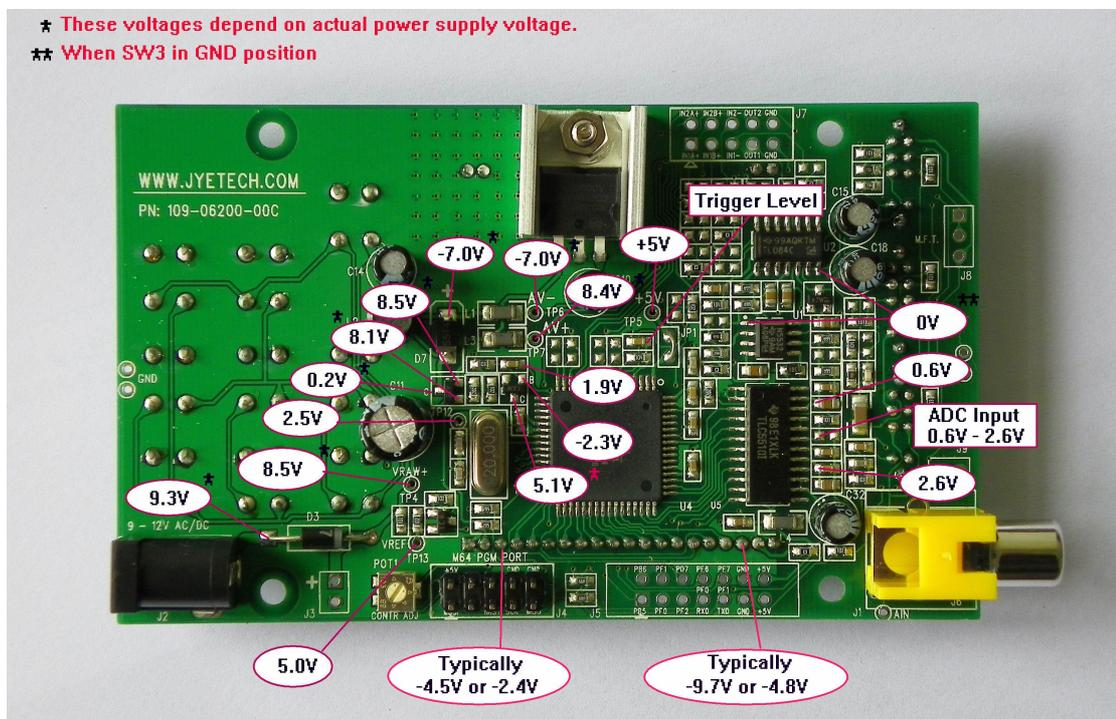

Fig. 1
Fig. 1 shows typical voltages measured at various check points for a normal 062 oscilloscope.
- 1) Is D7 placed correct? - D7 should be placed with its striped end pointing to the crystal (see Fig. 1). If D7 is placed wrong Q1 is likely burnt. Q1, if burnt, can be replaced with any general purpose PNP transistor. A through-hole PNP transistor is also good if SMD not available. Please pay attention to polarity in installing through-hole transistors. Polarity is marked on PCB.